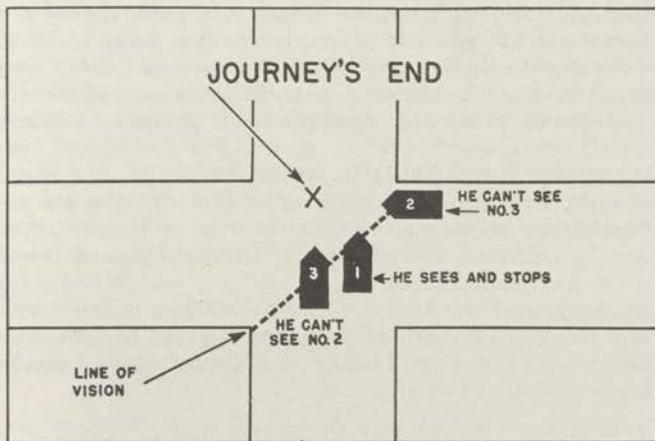

FIGURE 8.
e. You're blind when you pass at intersections.—When you overtake and correctly pass another vehicle on its left, the vehicle which you are passing cuts off your sight toward the right. (See fig. 8.) Hence, to avoid collisions, don't pass where someone may shoot out of a blind space at your right. That means don't pass at intersections.